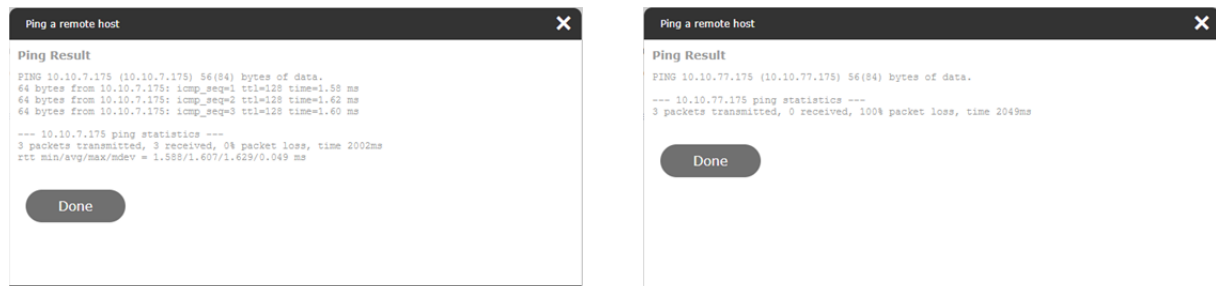

Figure 9.x - Results of the “Ping” command
- **Read/Write by pCOx:** is used to read or write the contents of a *pCO* variable using the page shown in Figure 9.y sotto;